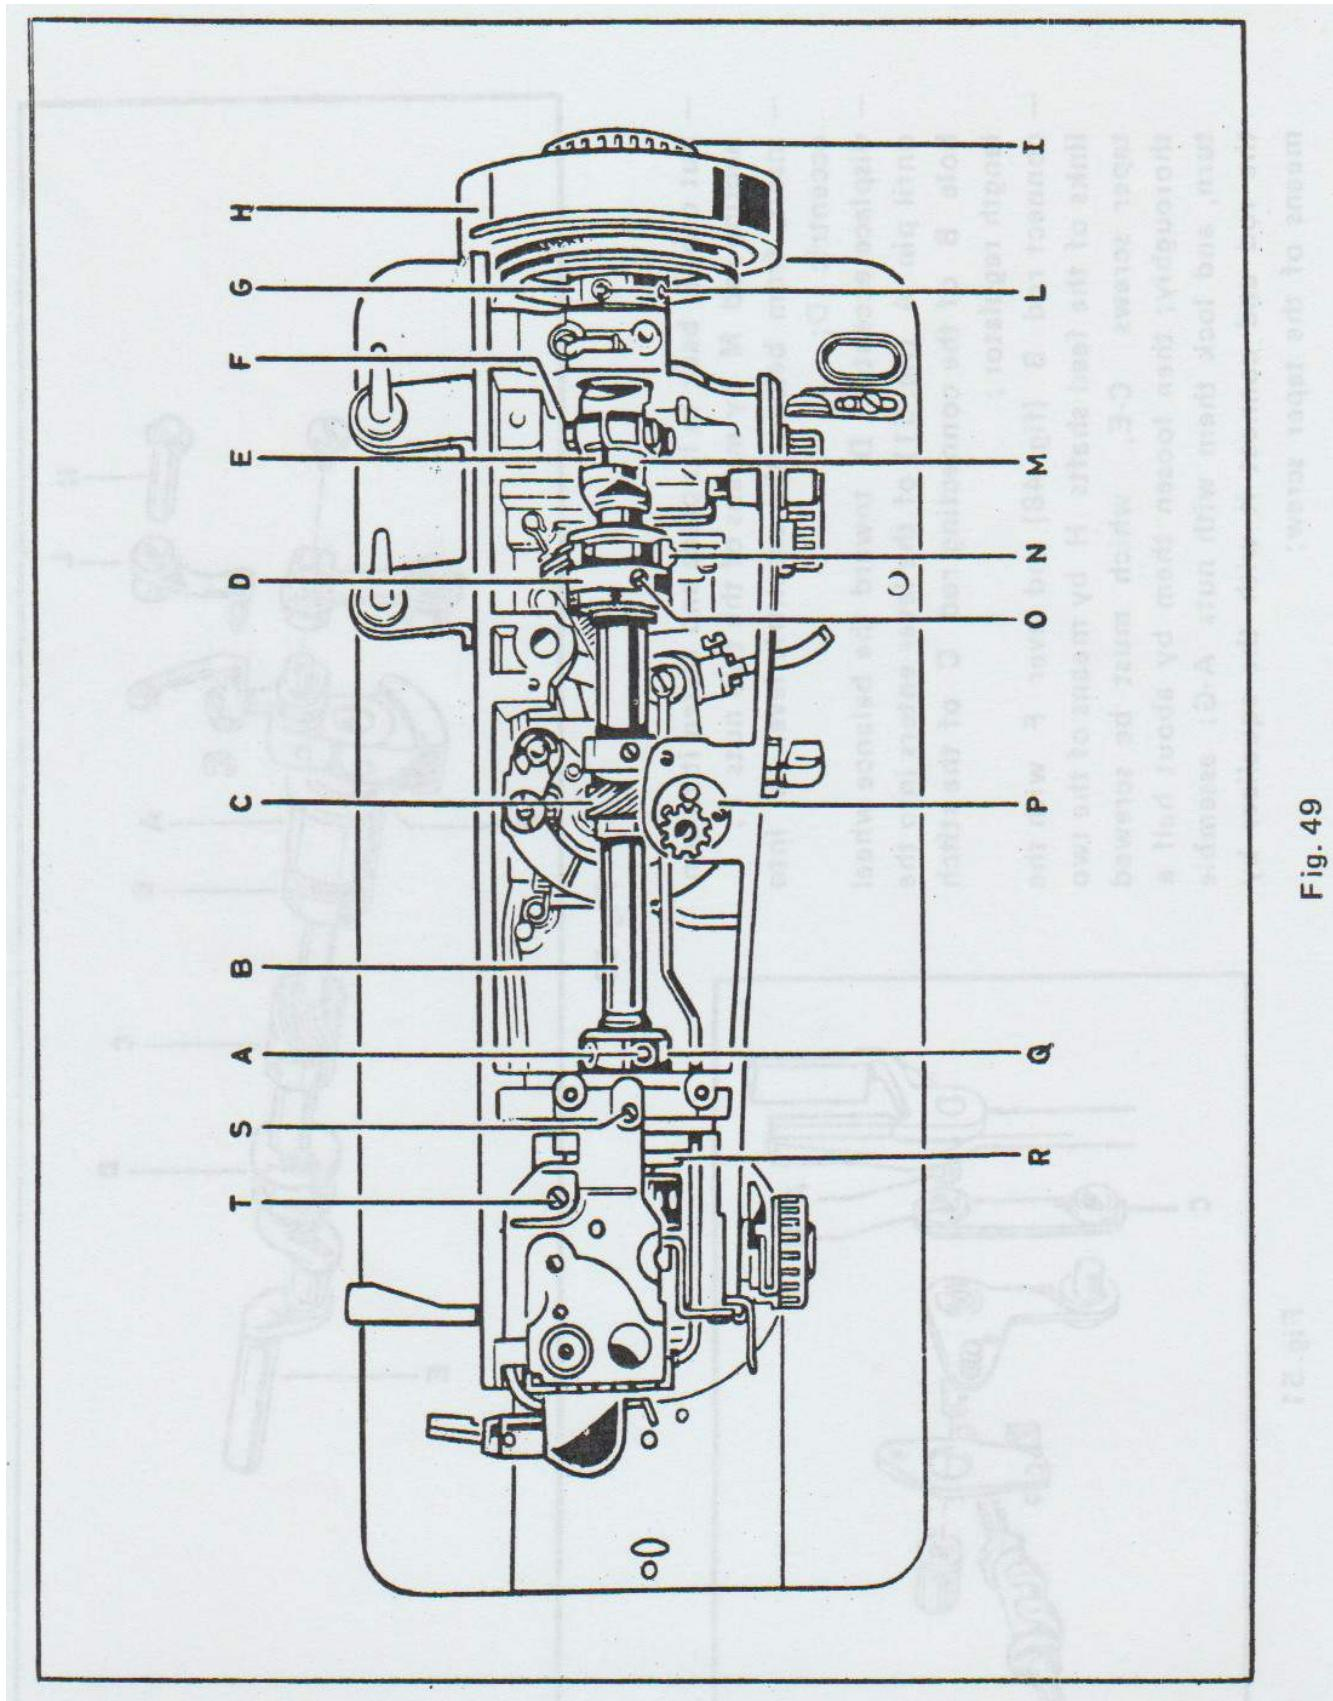

Fig. 49
- take off nuts F (fig. 49) and remove small caps E and U;
- adjust the end play of upper shaft B (fig. 49) by tightening the grub screws A of cap G;
- tighten grub screw T (fig. 49);
- draw eccentric group P near gear C (fig. 49);